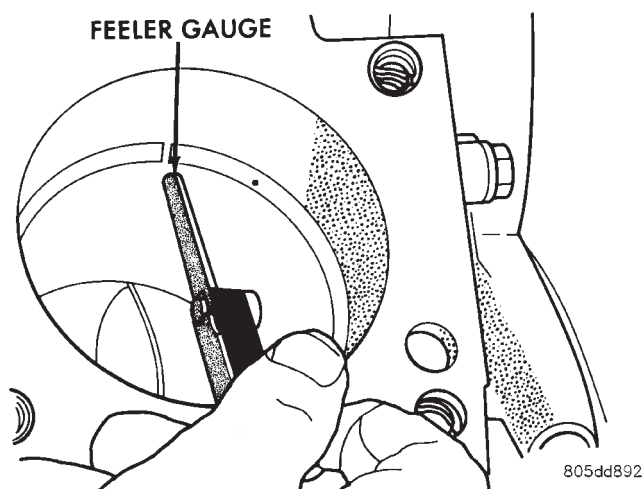

Fig. 8 Gap Measurement
(4) Place ring in the cylinder bore and push down with inverted piston to position near lower end of the ring travel. Measure ring gap with a feeler gauge fitting snugly between ring ends (Fig. 8).